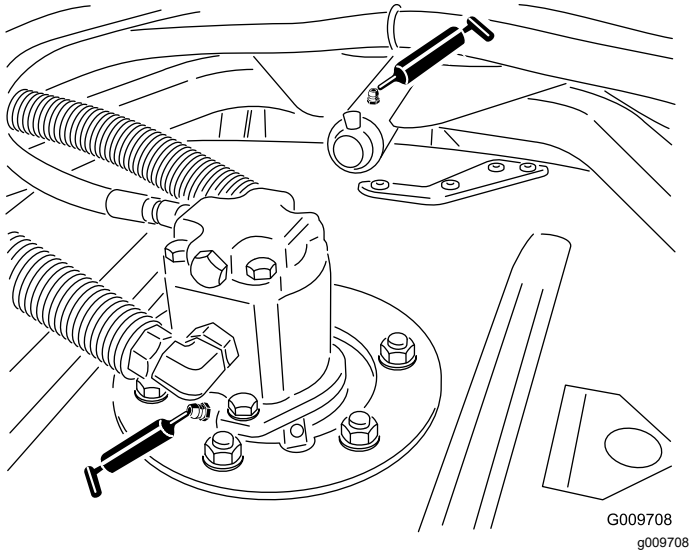

Figure 40
- Cutting-unit spindle-shaft bearings (2 per cutting unit) as shown in Figure 40
- Cutting-unit carrier-arm bushings (1 per cutting unit) as shown in Figure 40